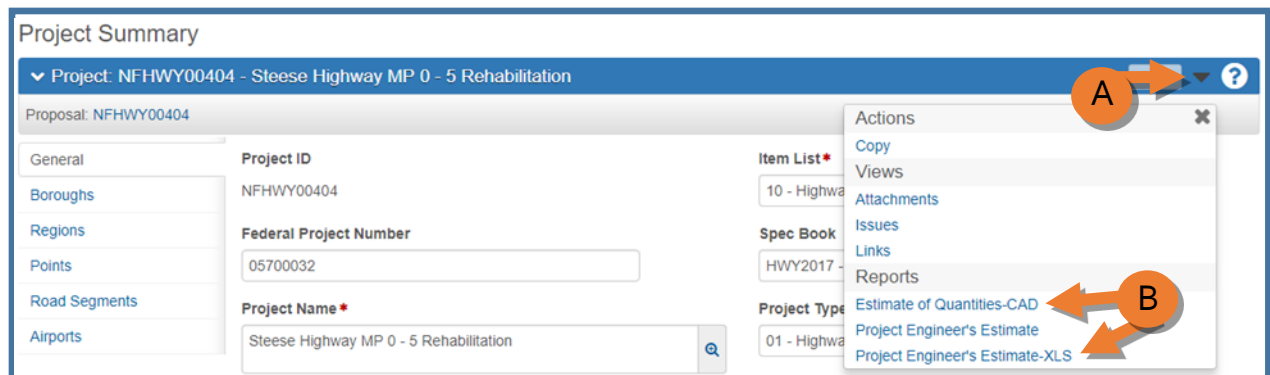

Figure 3.38
1. From the Project Overview component on the dashboard, search for and select your project. The Project Summary component will appear (*Figure 3.38*).
2. (A) Expand the Project Summary component **action menu** on the right side of the header.
3. (B) Select **Project Engineer's Estimate-XLS** or **Estimate of Quantities-CAD**.